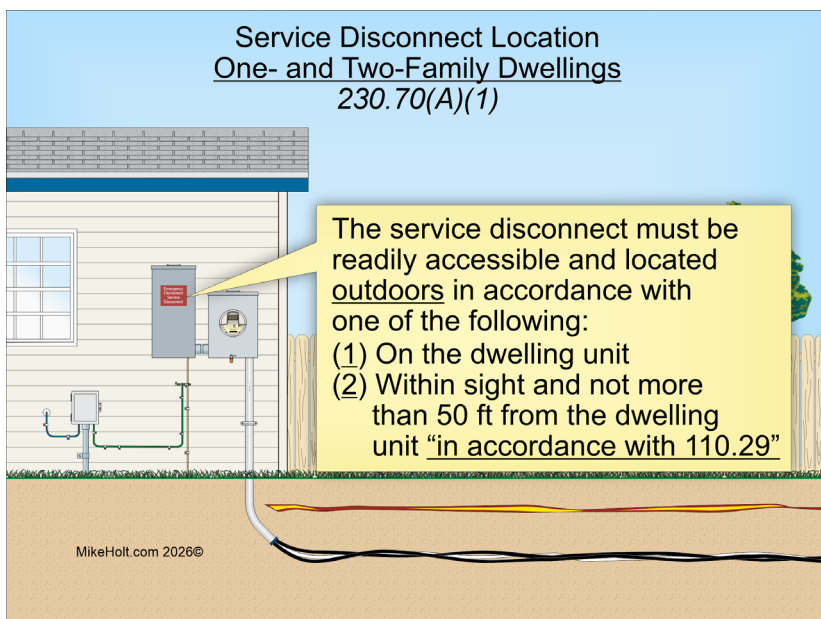

Fig. 11.
- (1) On the dwelling unit.
- (2) Within sight and not more than 50 ft from the dwelling unit in accordance with Sec. 110.29 (Fig. 11 on page 44).